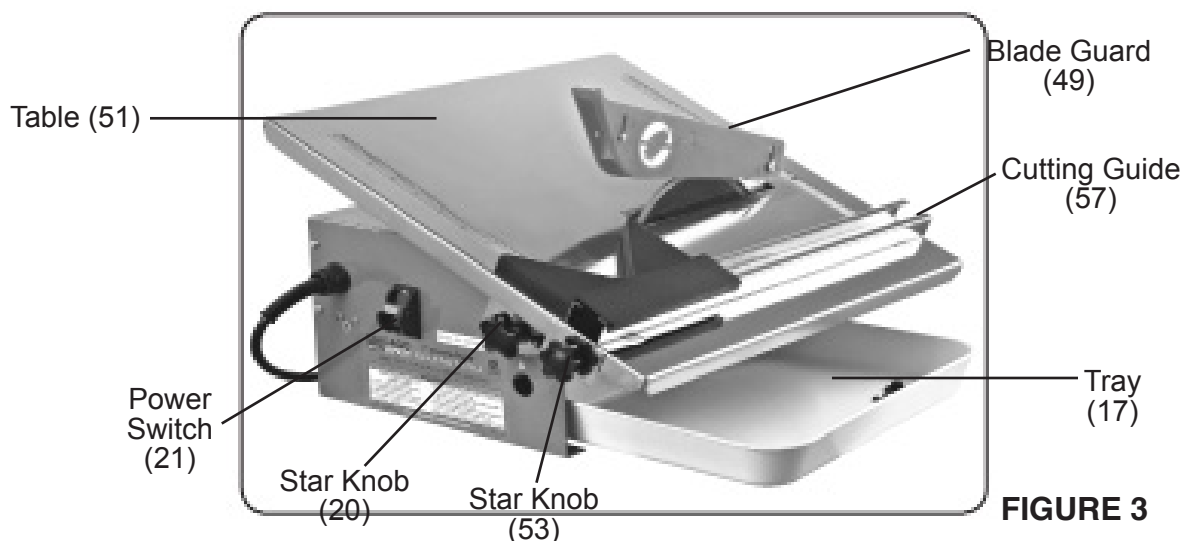

FIGURE 3
1. Fill Tray (17) with water and carefully slide Tray under Blade. Make sure water level is deep enough to cover lower edge of Cutting Wheel Blade, but not so deep as to spill over edge of Tray. (See Figure 3, below.)
2. Loosen Star Knob (20) and adjust the Cutting Guide (57) to set desired cutting *width*. Retighten the Star Knob.
3. If necessary, loosen second Star Knob (53) and tilt Table (51) to adjust *angle* of cut. Retighten Star Knob.
4. Connect Power Cord/Plug (34) of Tile Saw to the nearest 120 volt, grounded, electrical outlet.
6. Fill water in Tray (17) to proper level. Turn Power Switch (21) to its "ON" position, and allow Blade to spin up to full speed.
7. Check to make sure Blade is picking up water from Tray (17). If not, turn off Tile Saw. Unplug machine, and refill Tray to appropriate level. Restart Tile Saw.
8. Place workpiece you are cutting firmly against Cutting Guide (57) and slowly feed workpiece into Blade.
9. **CAUTION!** Keep hands and fingers away from Blade. Also hold the workpiece you are cutting firmly against Cutting Guide (57) throughout cutting process. Failure to do so may cause workpiece to be propelled by Blade toward your body and/or into Saw.
10. Once cut is complete, turn Power Switch (21) to its "OFF" position. Unplug Power Cord/Plug (34) from its electrical outlet. Allow Blade to stop on its own. Then remove the workpiece and any scrap material from the Table (51) of Saw.
11. Remove and empty Tray (17) of its contents, and thoroughly rinse with clean, cold water. Replace Tray.